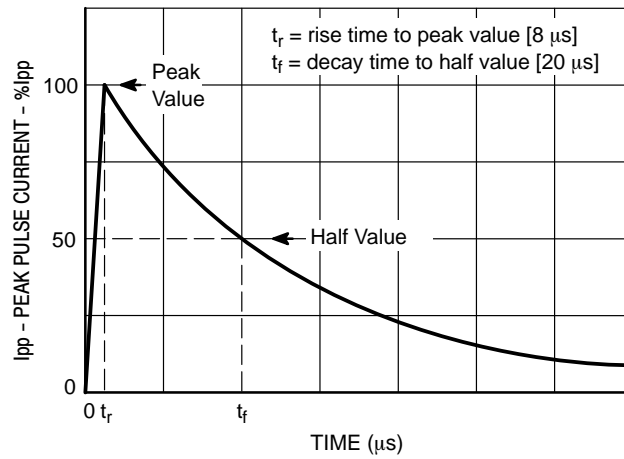

Figure 1. IEC61000-4-5 8/20 μs Pulse Waveform
3. Surge current waveform per Figure 1.